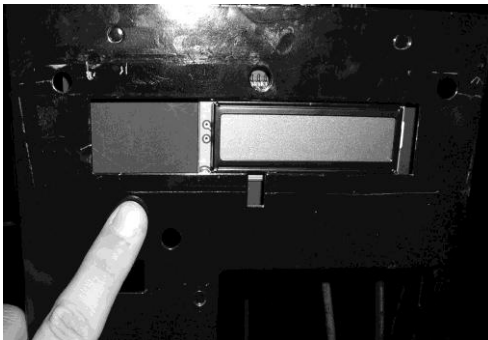

Figure 15.
11. The front panel can now be replaced. Direct the keypad tail through the larger slot where the display is positioned. See Figure 14. The tail should go under the display board. See Figure 15. Figure 16 will show the view from the front of the panel. **Please make sure that the display is shown through the window of the lens!**